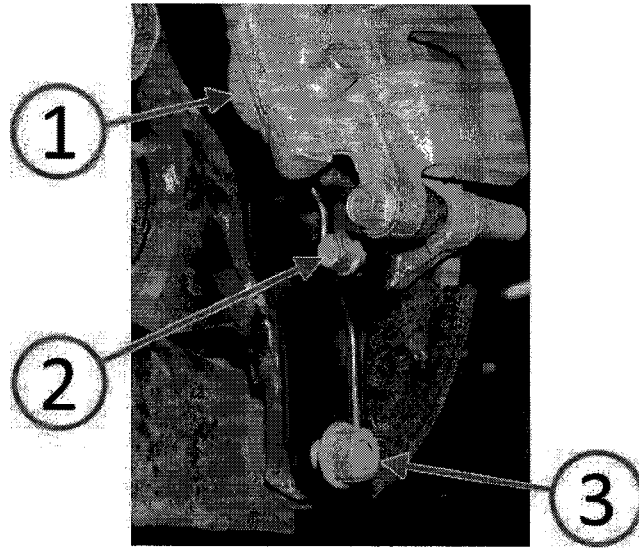

Fig. 3 Install Rear Brake Caliper
- 9. Install the brake caliper with caliper adapter (1) (Fig. 3).
- 10. Install by hand but **do not tighten** both of the **NEW** longer caliper anchor mounting bolts (2) included with the anti-vibration bracket service kit (Fig. 3).
- 11. Install by hand but **do not tighten** the **NEW** upper and lower control arm nuts (3) included with the anti-vibration bracket service kit (Fig. 3).